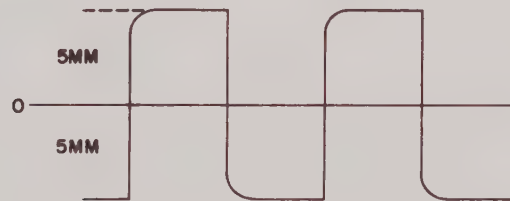

Figure 4-16A Pen Response, Damping Set at 110% of Critical
NOTE: Figures 4-16A and 4-16C show the overshoot characteristics for the extremes of the damping control, that is at approximately 30% (CCW) and 110% (CW) of critical damping.